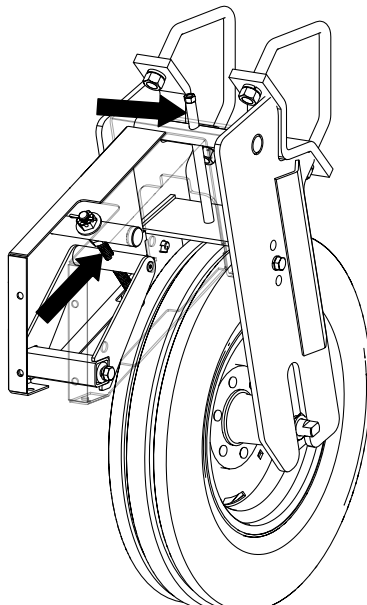

Figure 40 King Guide Screw Jacks
2. Lubricate the screw jacks in King Guides, or 3130 gangs (Figure 40)